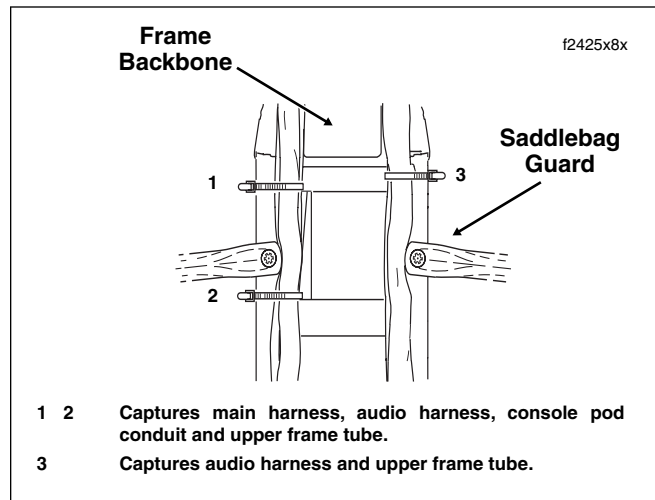
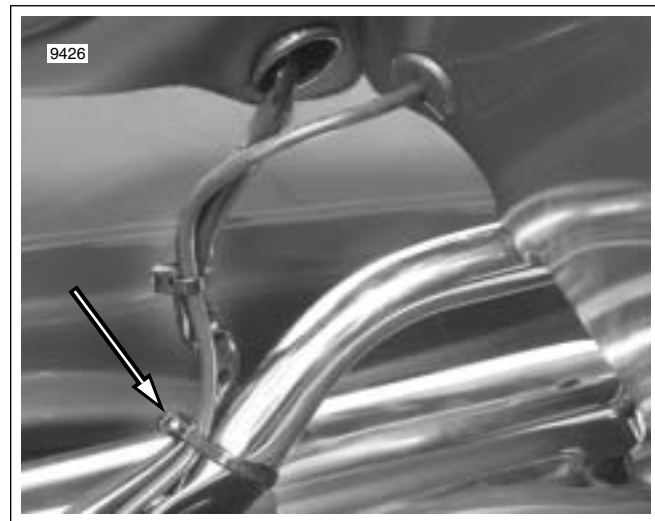

Figure 8-191. Capture Audio Harness (FLHTCU)
Figure 8-192. Capture Audio Harness (FLHTCU)
18. Carefully cut three cable straps securing audio harness to left and right upper frame tubes. See Figure 8-191. Cut two cable straps securing audio harness to luggage rack rails.
17. Install three **new** cable straps to secure audio harness to left and right upper frame tubes. See Figure 8-191. Install two **new** cable straps to secure audio harness to luggage rack rails. See Figure 8-192. Cut any excess cable strap material.